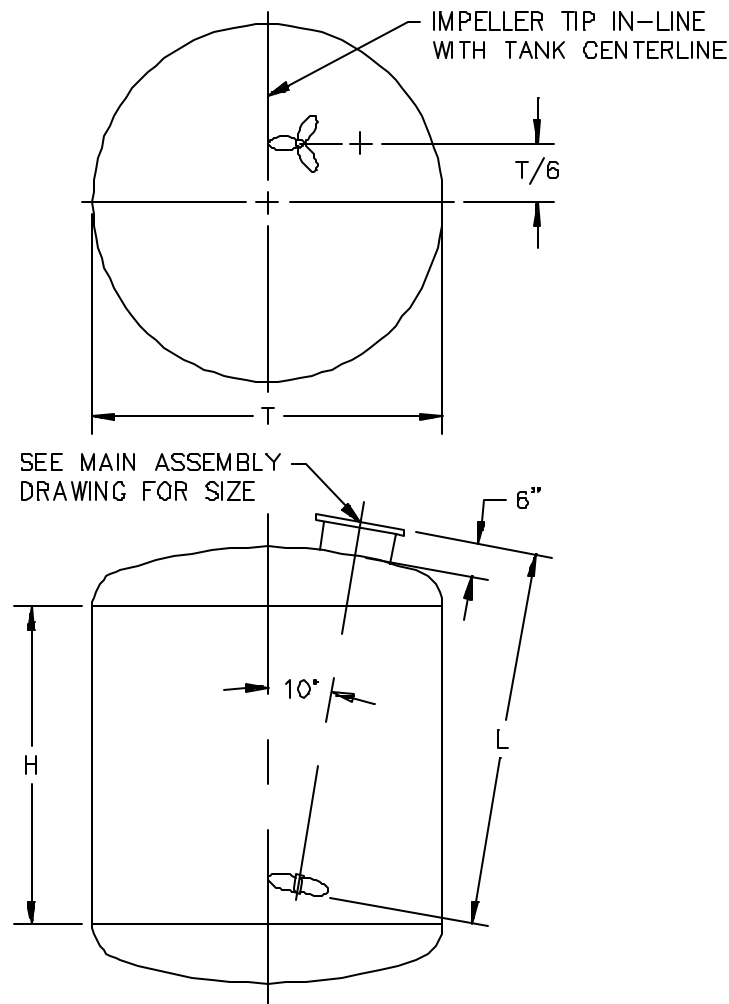

Figure 1: Angle Mount Installation
Figure 1: Angle Mount Installation .....	3
**Special Case, Angle Mounted Units:** The BTN agitator may be angle mounted. Position unit as shown in *Figure 1* to properly provide optimum mixing results. **CAUTION:** *Angle mounted units must be supported vertically during shaft, seal and bearing installation.*
5. Carefully lower the agitator assembly into the vessel. Properly align the agitator flange to vessel flange and install the flange to vessel hardware (customer supplied). If angle mounted, make sure the unit is properly oriented as shown in *Figure 1 on Page 3*. Torque bolts to the value shown in *Table 1, page 8*.